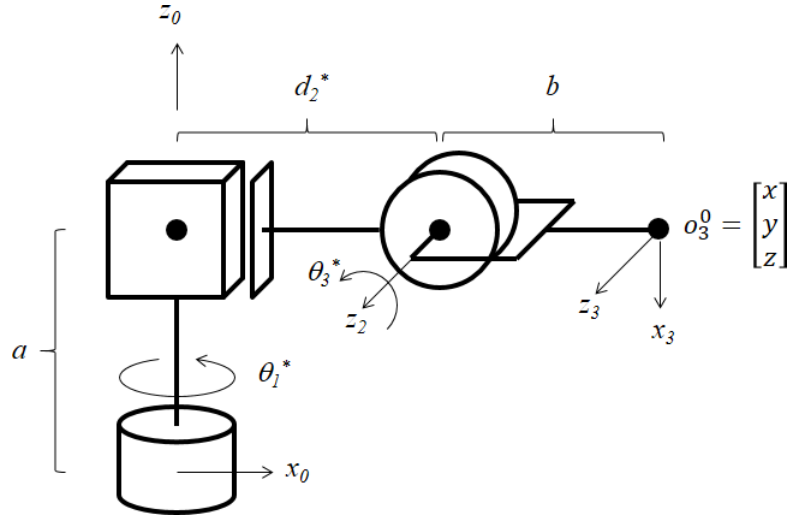

Figure 4: An RPR robot. The figure shows the robot with joint angles  $\theta_1 = 0$  and  $\theta_3 = 0$ .
3. Consider the robot shown in Figure 4.
Redraw Figure 4 to include frame  $\{1\}$  and frame  $\{2\}$  placed according to the Denavit-Hartenberg convention, and provide the table of Denavit-Hartenberg parameters.